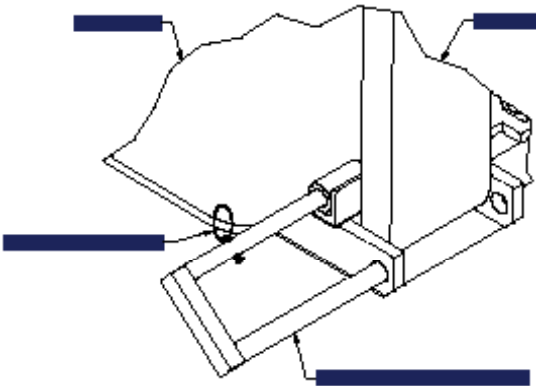

Figure 5-1, Fork Removal
2. Slide out the Fork Latch Assembly and remove forks. (Figure 5-1)